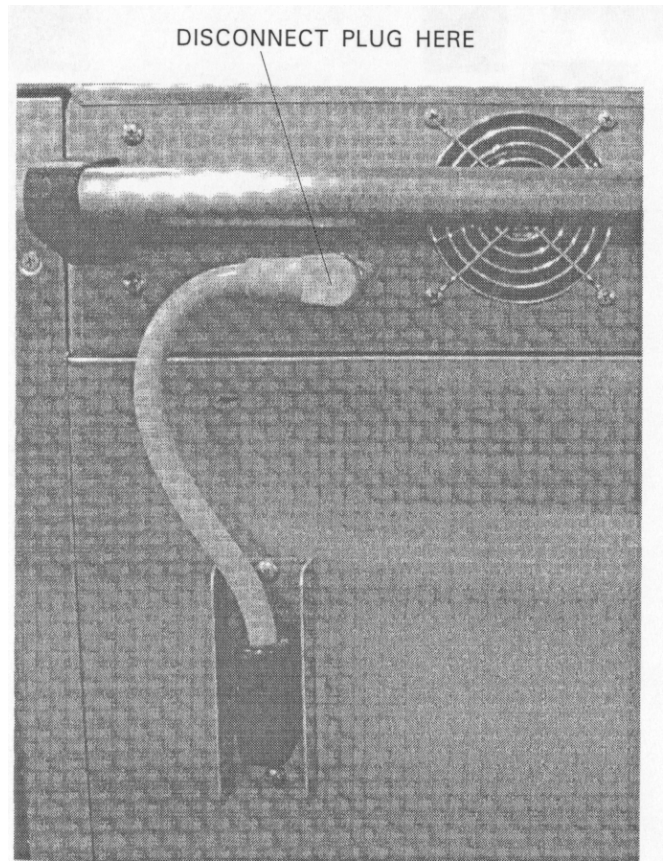

FIGURE 2
3. Disconnect the yellow cord between top and bottom, in the back of the cabinet (see Figure 2).